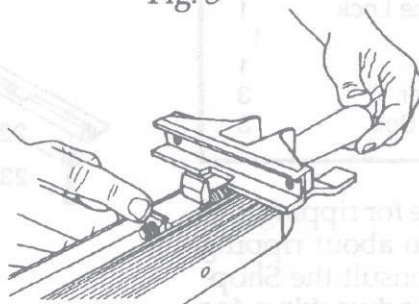

Fig. 7
5. Turn the handle so the special square nut is secured on the handle threads, as seen in Fig. 7.